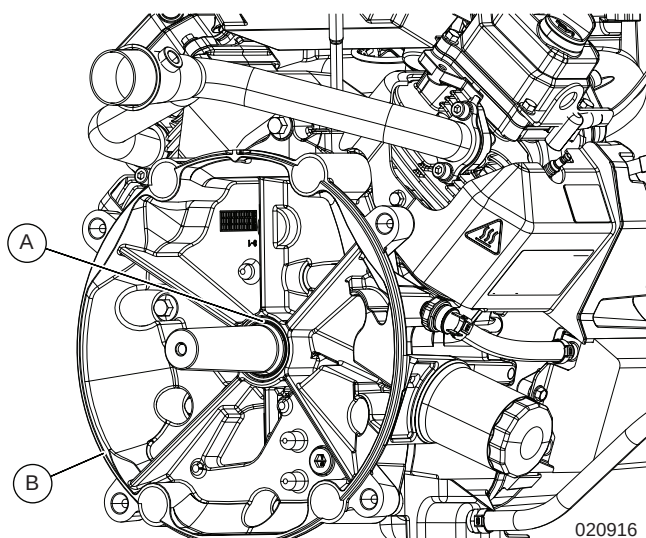

Figure 12-1. Install Oil Seal Into Gear Cover
1. See Figure 12-1. Press crankshaft PTO oil seal (A) into gear cover assembly (B) until seal is fully seated against bottom of bore.